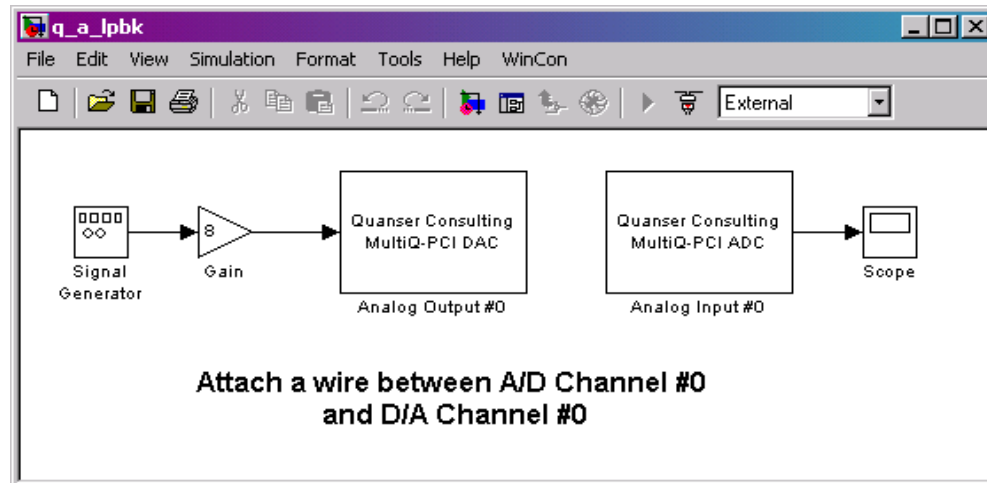

Figure 82 Analog Loopback Model
2. To **open the model**, follow the instructions given in Section WinCon Demonstrations Window and double-click on the *Analog Loopback (q\_a\_lpbk)* block that corresponds to your data acquisition board. For the MultiQ-PCI, the model window depicted in Figure 82 will open. Note that you could have created this model yourself using Simulink and the Quanser Toolbox, as described in *Interfacing to Hardware: The Quanser Toolbox* on page 95.